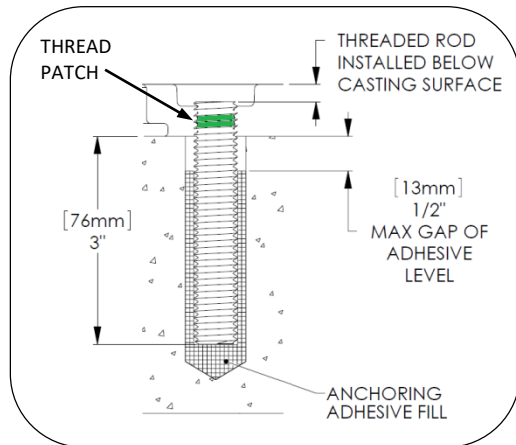

Fig. 4. – Install threaded rod
1. Thread anchor rods with thread patch into bike rack as shown in Fig. 4.
2. Fill holes with adhesive to level shown in Fig. 4.